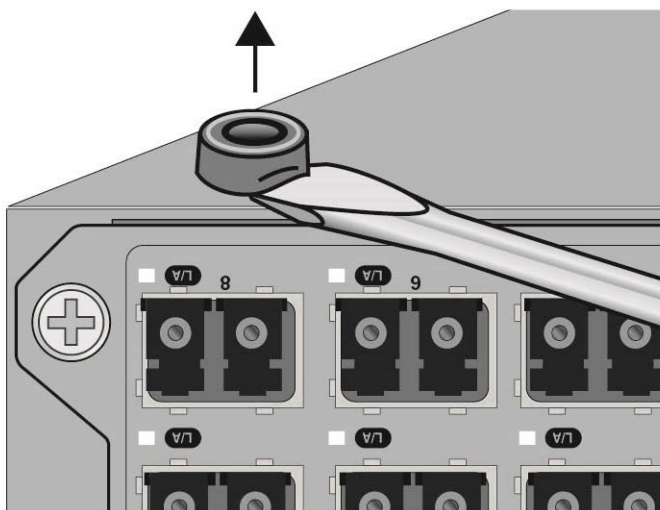

Figure 43. Removing the Bumper Feet
2. Use a small flat-head screwdriver to gently pry the feet from the bottom of the device. Refer to Figure 43.